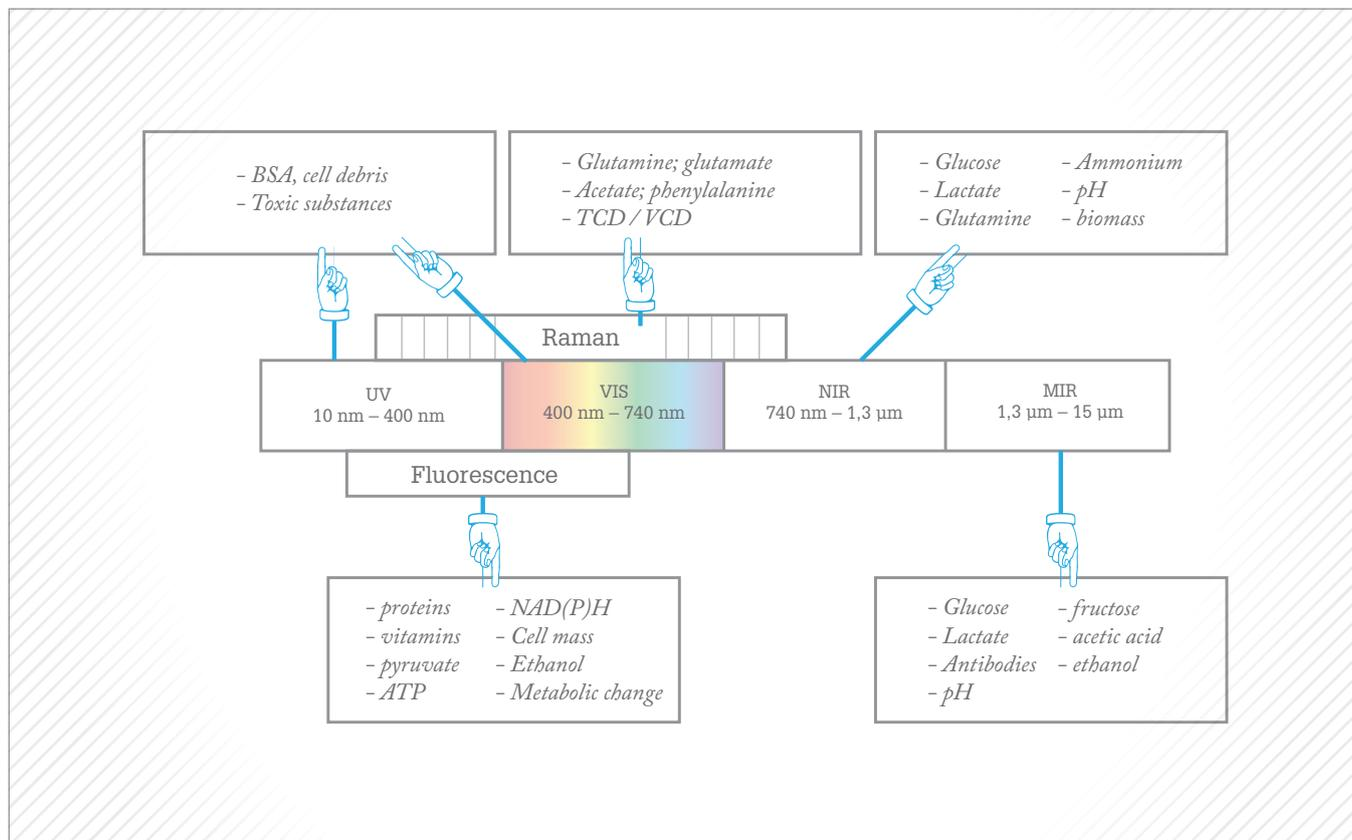

Figure 1: Spectral range for bioprocess monitoring with accessible variables.
and pO₂ measurements in steel bioreactors, using standard ports. For disposable bioreactors, optical chemosensor systems – also called optodes – can be used for those variables. Optodes are based on the interaction of a matrix-embedded indicator and the analyte (3) and can be pre-sterilized within the disposable containers by γ -radiation and can be connected to optical fibers via transparent materials, such as glass. Such optical chemosensors are used to monitor chemical variables, but for nutrients and other biological variables, spectroscopic measurement is recommended. Common spectroscopic methods for bioprocess monitoring are focused on the spectral range from UV to MIR, including fluorescence and Raman spectroscopy. Various bioprocess variables can be measured in different spectral ranges (4–16) (see Figure 1).